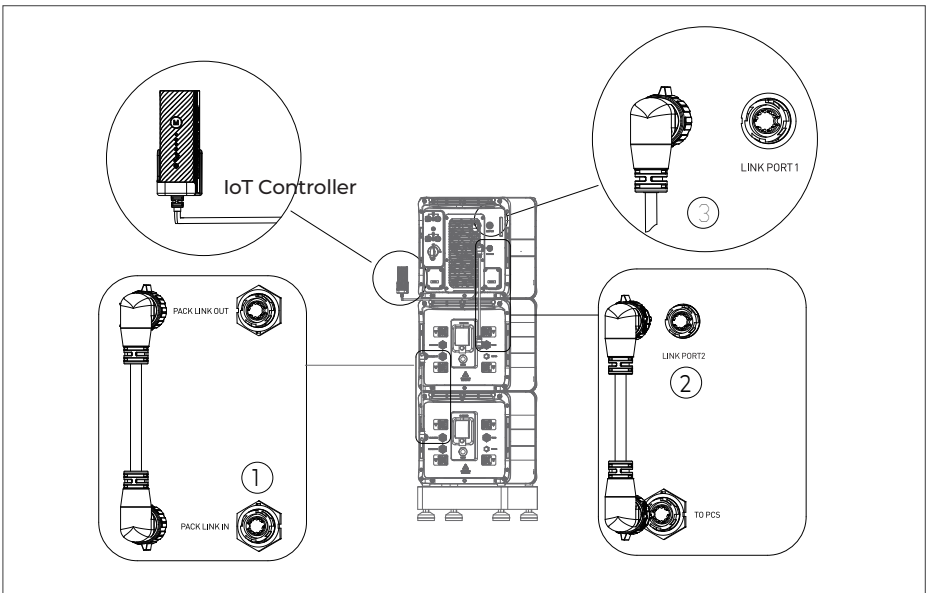

Figure 6-11
To achieve communication between two B500 battery packs, a communication cable is required. Plug one end of the cable to the B500 Link-in port, and the other to the upper B500's Link-out port. See Fig. 6-11 "①".
For communication between the EP800 inverter and B500 battery packs, plug one end of the communication cable to the top B500's inverter signal port (To Pcs), and the other to the Link Port 2 of the EP800 inverter. See Fig. 6-11 "②".
Connect the IoT controller to the EP800 inverter. See Fig. 6-11 "③".